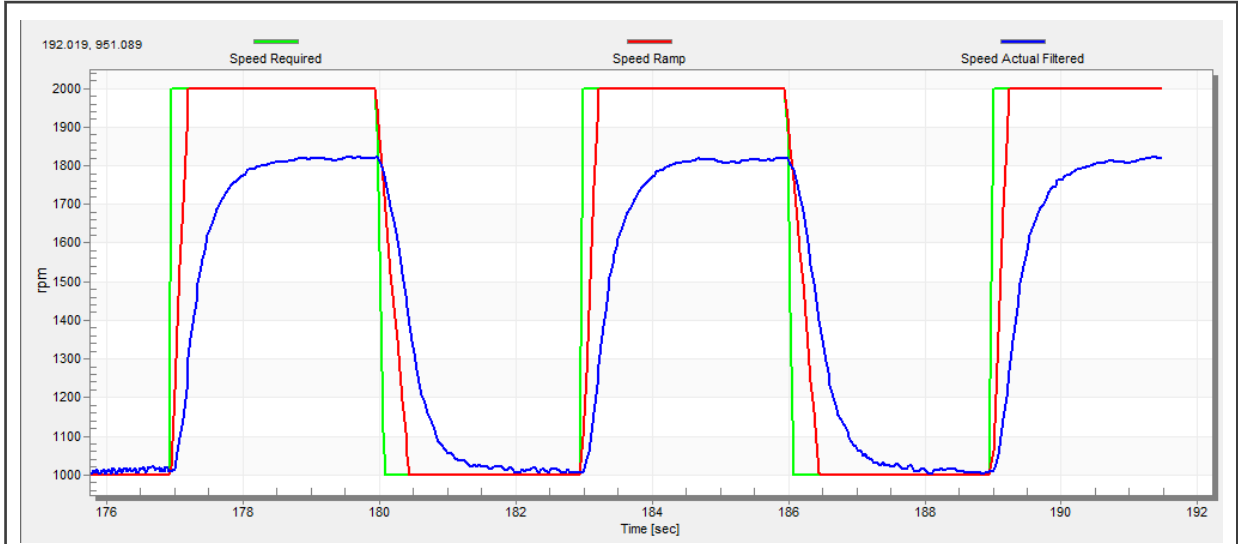

Figure 34. Speed controller response— $SL_{Ki}$  value is low, Speed Ramp is not achieved
The motor speed control loop is a first-order function with a mechanical time constant that depends on the motor inertia and friction. If the mechanical constant is available, the PI controller constants can be tuned using the loop bandwidth and attenuation. Otherwise, the manual tuning of the P and I portions of the speed controllers is available to obtain the required speed response (see the example response in Figure 34). There are dozens of approaches to tune the PI controller constants. The following steps provide an approach to set and tune the speed PI controller for a PM synchronous motor:
- The “SL\_Ki” value is low and the “Speed Actual Filtered” does not achieve the “Speed Ramp” (see Figure 34).